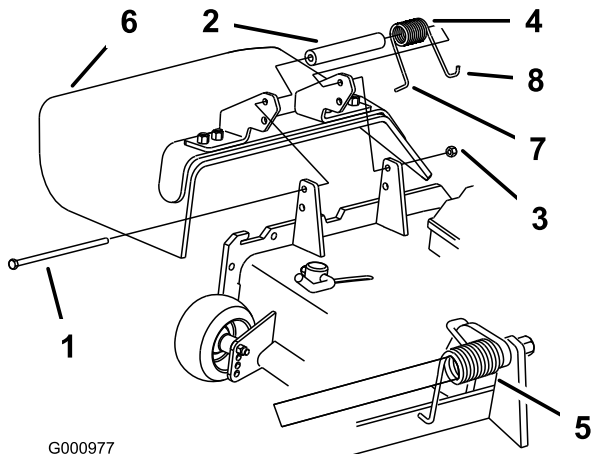

Figure 97
1. Remove the locknut, bolt, spring and spacer holding the deflector to the pivot brackets (Figure 97). Remove the damaged or worn grass deflector.
Note: Make sure the **L** end of the spring is installed behind the deck edge before installing the bolt as shown in Figure 97.
3. Install the bolt and nut. Place the **J** hook end of the spring around the grass deflector (Figure 97).